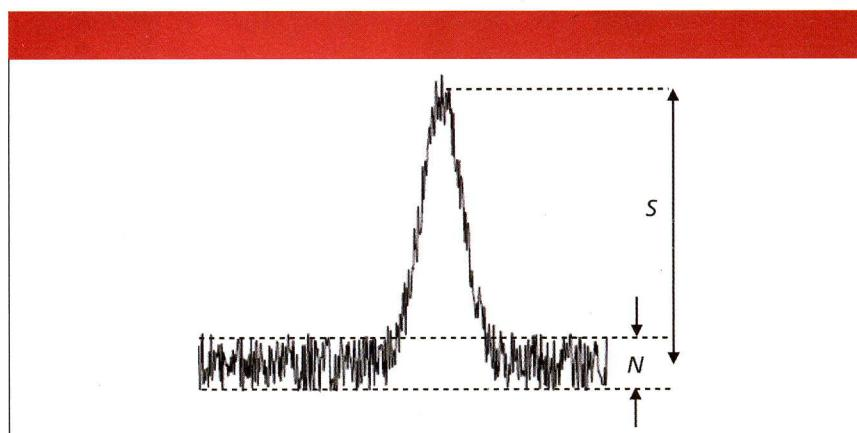

Figure 1: Measurement of the signal and noise from a chromatogram.
**T**he signal-to-noise ratio (S/N) in a liquid chromatography (LC) separation usually is defined as shown in Figure 1. The noise is measured between two lines bracketing the baseline and the signal is measured from the middle of the baseline to the top of the peak. S/N is merely the signal divided by the noise. There are some other ways to determine S/N, but that is not the point of the current discussion. My comments here will apply no matter what technique you use for measurement and calculation of S/N.